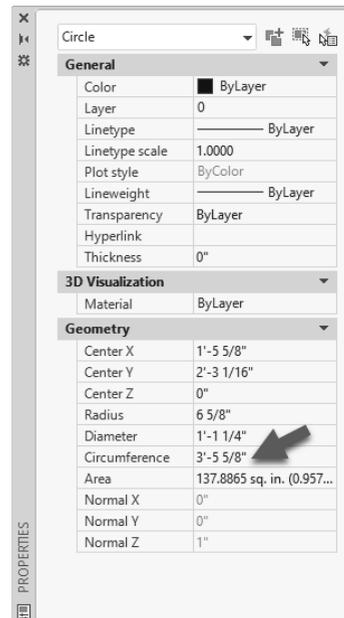

FIGURE 2-1.14 Properties for circle
**NOTE:** See Figure 2-1.14 for the Circle's properties; you can actually modify the Circle by entering a new Circumference or Area.